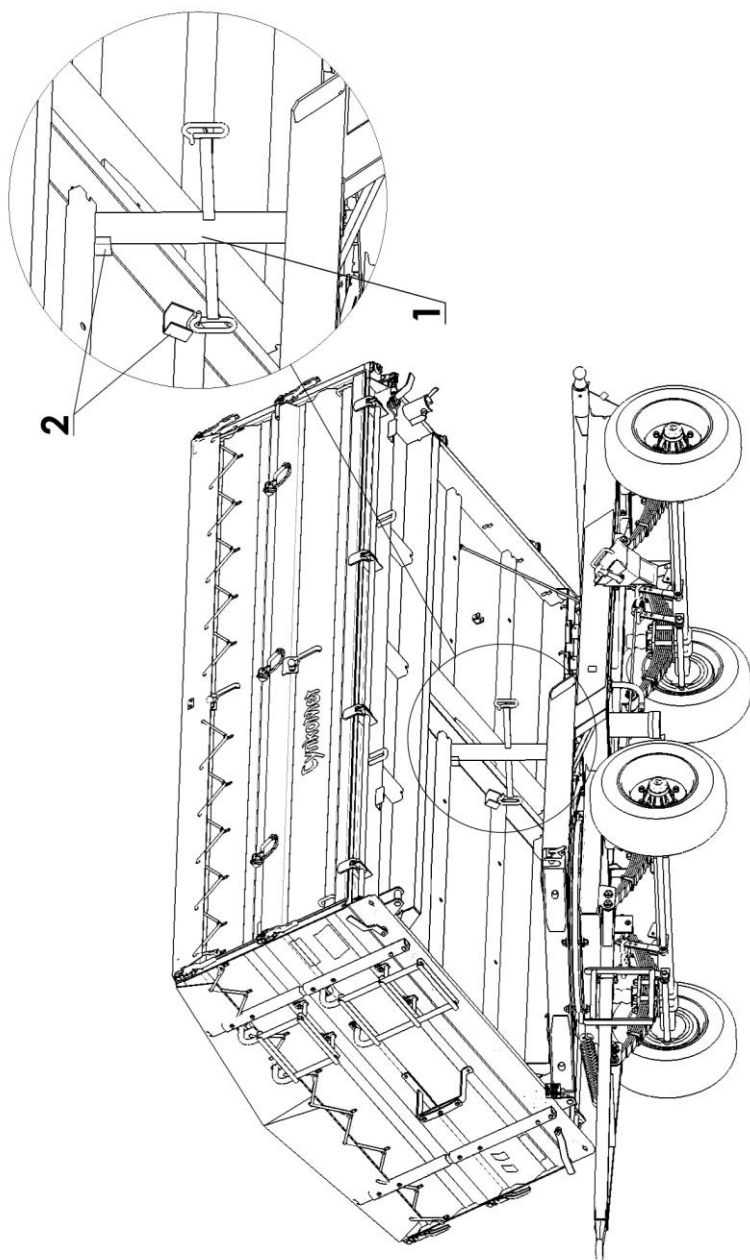

Fig. 16. Way of supporting the loading crate
- If necessary, perform maintenance and repair work under the lifted load crate (e.g. replacement of the telescopic cylinder), the loading crate should absolutely be secured with a service support 1 (fig. 16).
If, for maintenance tasks, raising the crate is necessary, it should be tipped aside and secured before reclining the support of the loading crate (fig.16 p.1).
In the frame of container, there are sockets of the crate support (fig.16 p.2). The crate should be lifted by a hydraulic cylinder, then paying particular attention to safety, raise the crate support and slowly lower the loading crate direct the support to the socket.